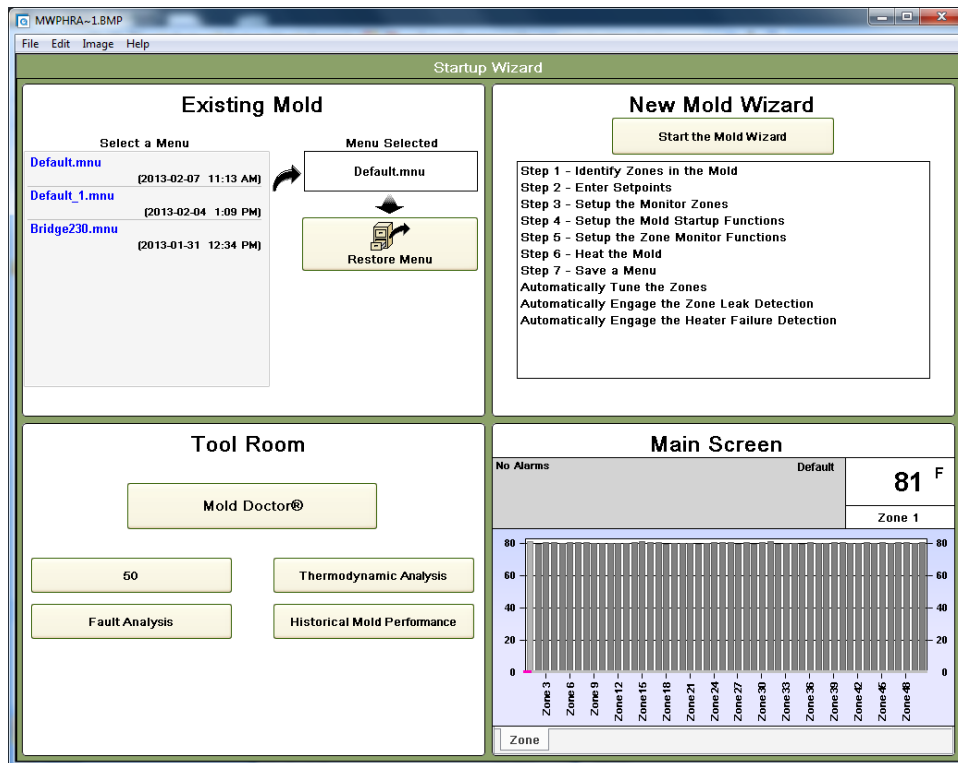

Figure 4a Startup Wizard
The HPS-C-PRO⁺ is shipped with the Startup Wizard option selected. Whenever the Startup Wizard option is selection the Startup Wizard shown in Figure 4a will appear when the unit is powered on. The operator can choose between four screens:
- c) **Main Screen** – Use this section to run the tool after a menu has been restored or after the New Mold Wizard has been completed. The screen shown is similar to the Pilot screen and is updated to show existing conditions in the mold. If the control outputs are off and no alarms exist, the top area of the screen will have a gray background as shown in Figure 4a. If the outputs are on, the background will be green when no alarms exist. If alarms exist, the background will be red and the alarms will be listed in the red area. The groups and zone names are updated if a menu is restored.
To setup a new tool, press the **Start the Mold Wizard** button shown in the upper right quadrant of the screen shown in Figure 4a. The wizard will turn off all zones, unlock all zones and reset all settings to default settings. All zones will be temporarily named “Zones” and any existing group tabs will be cleared from the bottom of the screen. After pressing the **Yes** button in the popup screen, the screen in Figure 4b will appear.